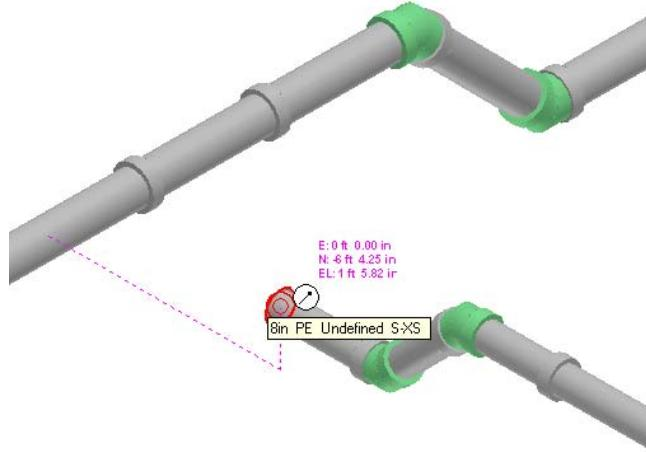

Figure 29: Repositioning of the Target
52. Select the **Reposition Target** option on the **PinPoint** ribbon and place the target at the end of the sloped pipe, as shown in Figure 29.